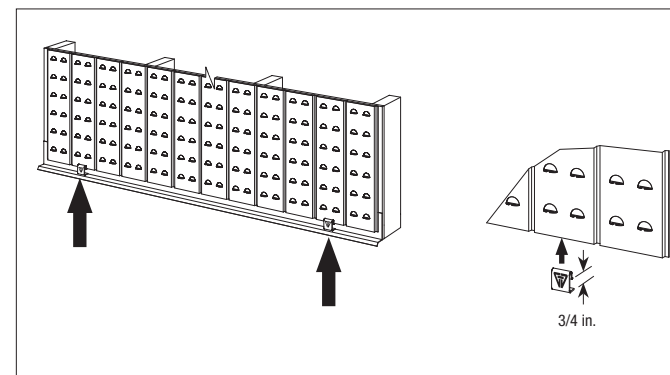

FIGURE 4
- For Elite applications, slide Thin Tech spacers with “GG” logo upright and facing forward, fully onto the bottom edge of first (lowest) row panels, and position panels with the spacer resting on the horizontal leg of the starter angle and vertical edges aligned over studs, see Figure 4. (If Thin Tech spacers are not used, position panels so that their bottom edges are 3/4 in. above the horizontal leg of the starter angle and their vertical edges align over studs.)